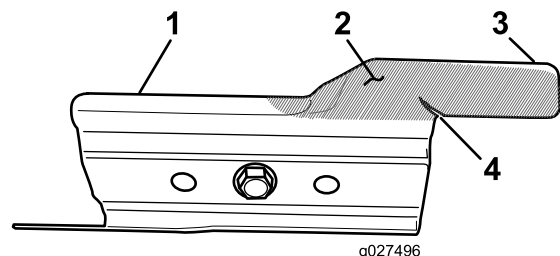

Figure 26
Carefully examine the accelerator for excessive wear (Figure 26). Because sand and abrasive material can wear away the metal (especially in the area shown as item 2 in Figure 26), check the accelerator before using the machine. If you notice that a tab on the accelerator has been worn down to a sharp edge or there is a crack, replace the accelerator; refer to Removing the Blade (page 22).